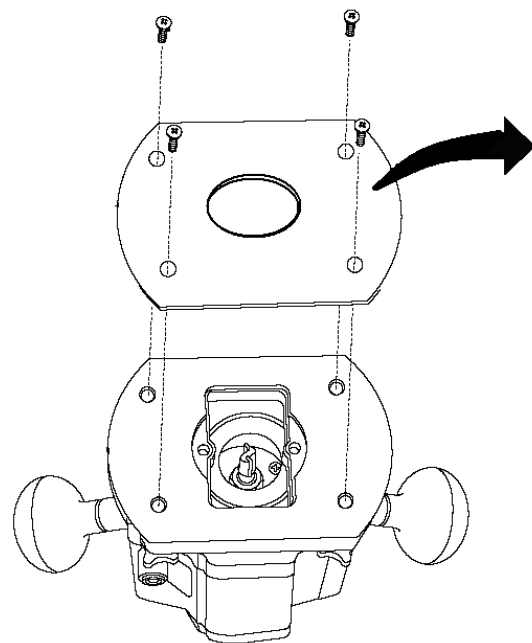
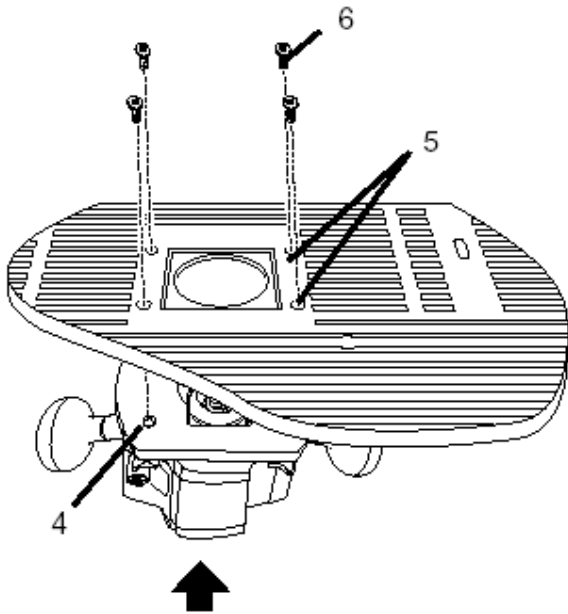
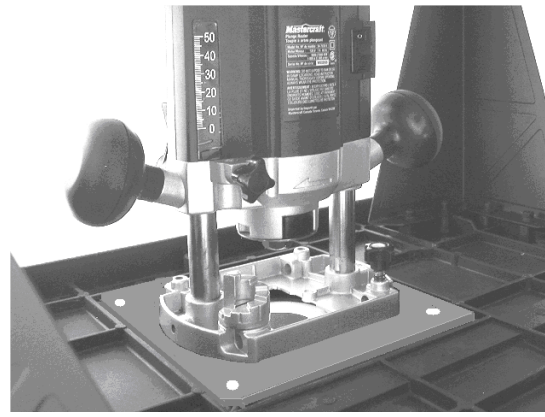
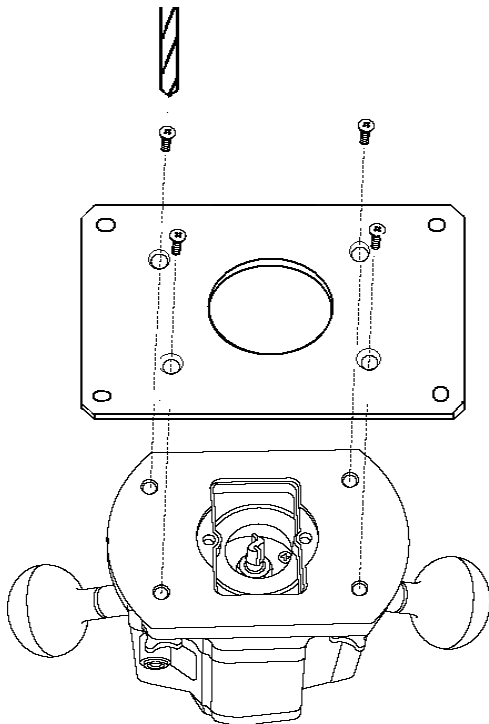

Fig10
Fig 11
Fig 13
Fig 12
Attach the Router to the Table (Fig 10 ~ Fig13)
A) Direct Mount (Fig 10, Fig 11):
Remove the plastic protective plate of your router (Fig 10).
Attach the router to the table by use of supplied screws and nuts (6, Fig 11).
B) Use Mounting Plate (Fig 12, Fig 13):
Holes must be drilled according to your router's hole pattern (Fig 12).
Attach the router to the mounting plate by use of supplied screws and nuts (Fig 12).
Attach the router with mounting plate to the table by use of supplied screws (Fig 13).